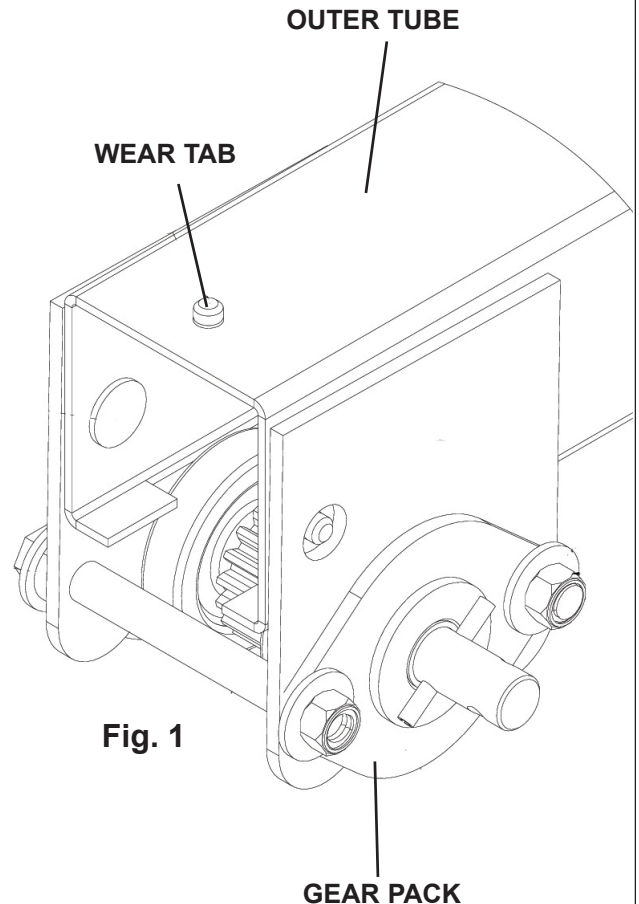

Fig. 1
2. Locate the end of the slideout assembly where the gear pack is fastened. **Fig. 1**